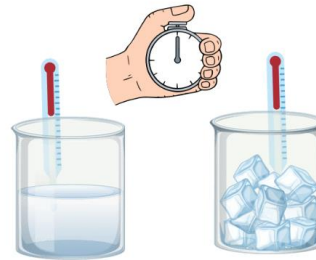

Fig. 2.26 Measure the time of changing the state of ice and hot water to cool
Step 3 – Start the timer or stopwatch. Place the thermometer in the hot water container and record the temperature at regular intervals as shown in Figure 2.26.